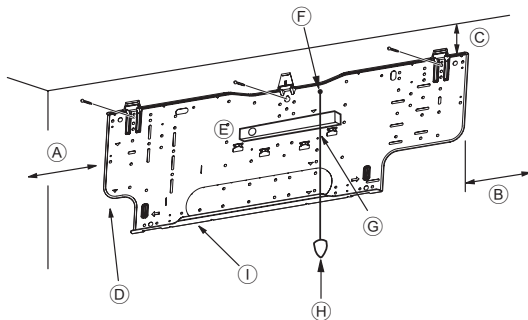
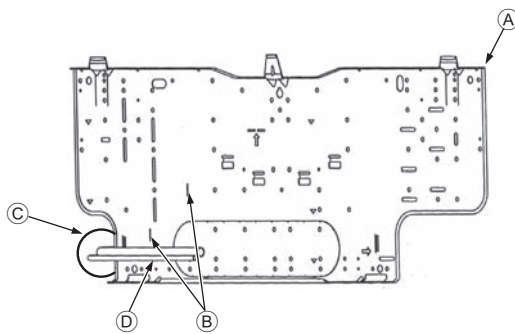

Fig. 3-4
Fig. 3-5
■ PKFY-P-VHM-E (Fig. 3-4)
- ▲ D Fixing screws (4 × 35) ②
- ▲ I Mount board ①
3.3. When embedding pipes into the wall (Fig. 3-5)
- ▲ A Mount board ①